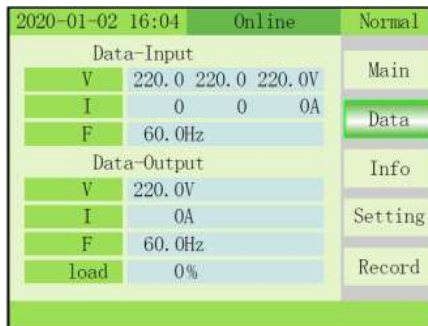

Fig. 4-4 Data menu
2) DATA: This menu shows input and output detailed information (Fig. 4-4).